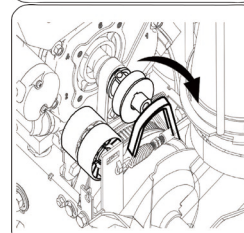

Figure 23
3. Roll the auger belt off the engine pulley. See Figure 23.